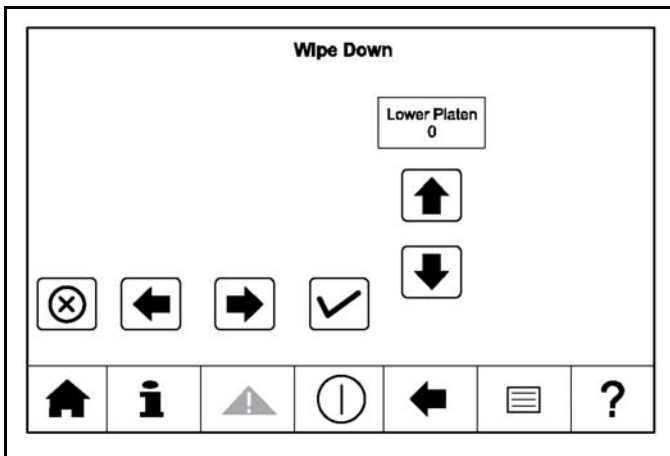

Figure-97
2. The following screen will allow you to move the platen up and down. See Figure-97.